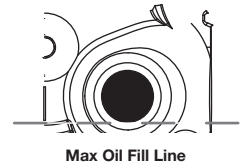

Fig. 24
- Look into the oil fill hole, use a flashlight if needed. The oil should be just touching the inner most thread (Fig. 24).
- If the oil level is not touching the inner most thread on the oil fill hole, add a small amount of oil to the oil fill hole and recheck (Fig. 24). Repeat this procedure until the oil level reaches the inner most thread on the oil fill hole.
**NOTE:** Use the bottle and spout saved from initial use to measure the correct amount of oil. The top of the label on the bottle measures approximately 3.04 ounces (90 ml) (Fig. 29). Check the level, See *Checking the Oil Level*. If the level is low, add a small amount of oil and recheck. Do not overfill (Fig. 24).